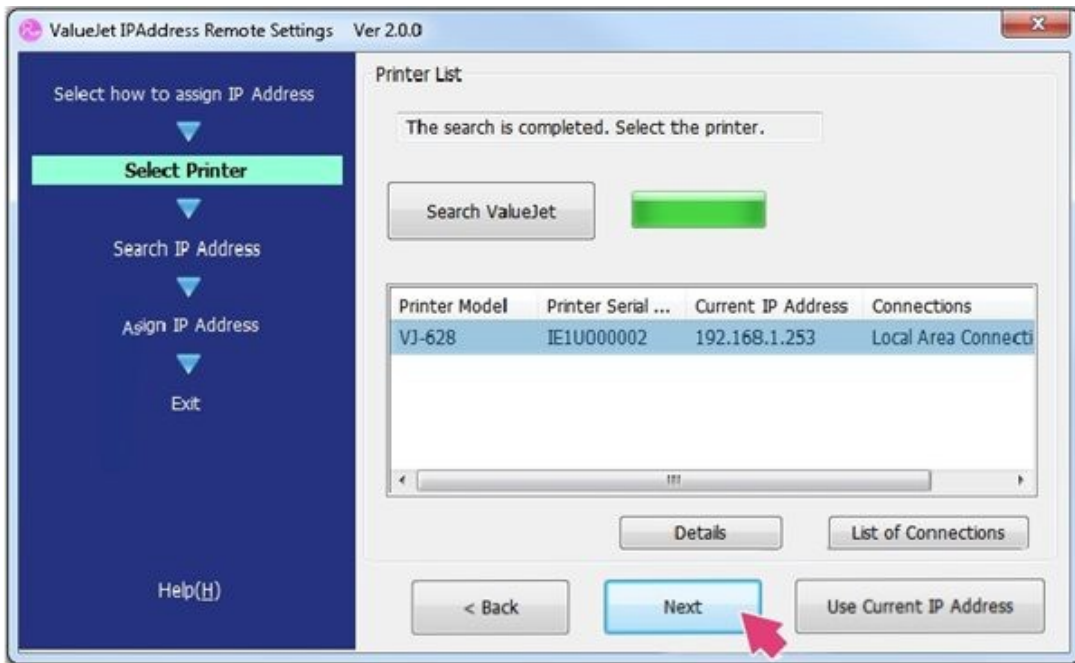

Figure 21
- You will see the chosen printer highlighted. Select **Next** to assign an available IP address to your printer. See Figure 21.